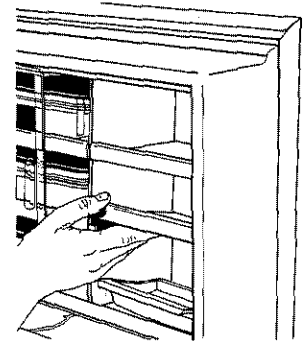

FIGURE 65
1. Lift the front part of the shelf up and pull out at an angle. See Figure 65.